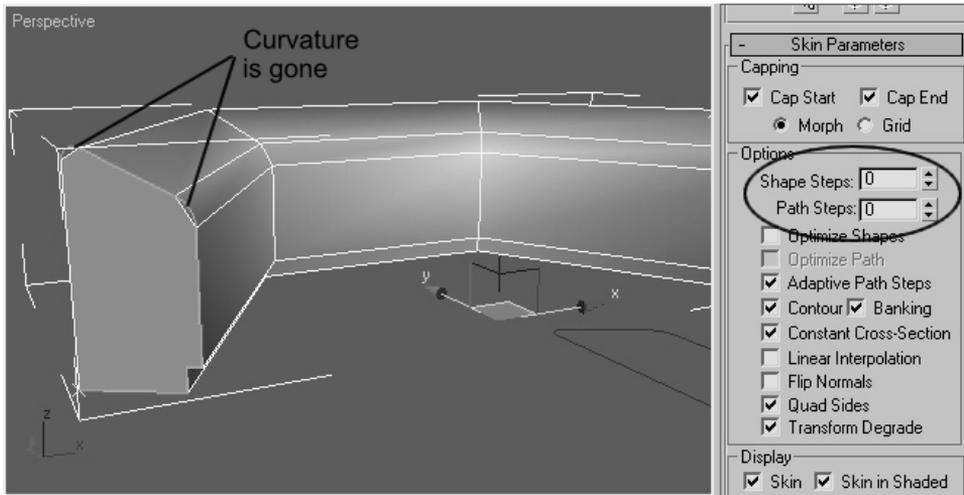

FIGURE 9.20 With Path Steps and Shape Steps set to 0, the object is only 60 faces but is no longer acceptable visually.
4. Decrement the Shape Steps field by 1 until you get to 0. The Console01 now only has 60 faces, but the curvature is completely gone from the object and it looks terrible (see Figure 9.20).